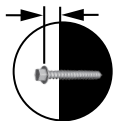

Figure 2
4. Ensure there is a **1/8 ~ 5/32 in (3 ~ 4 mm)** gap between the head of the **Screw** and the **Wall**. Figure 2.